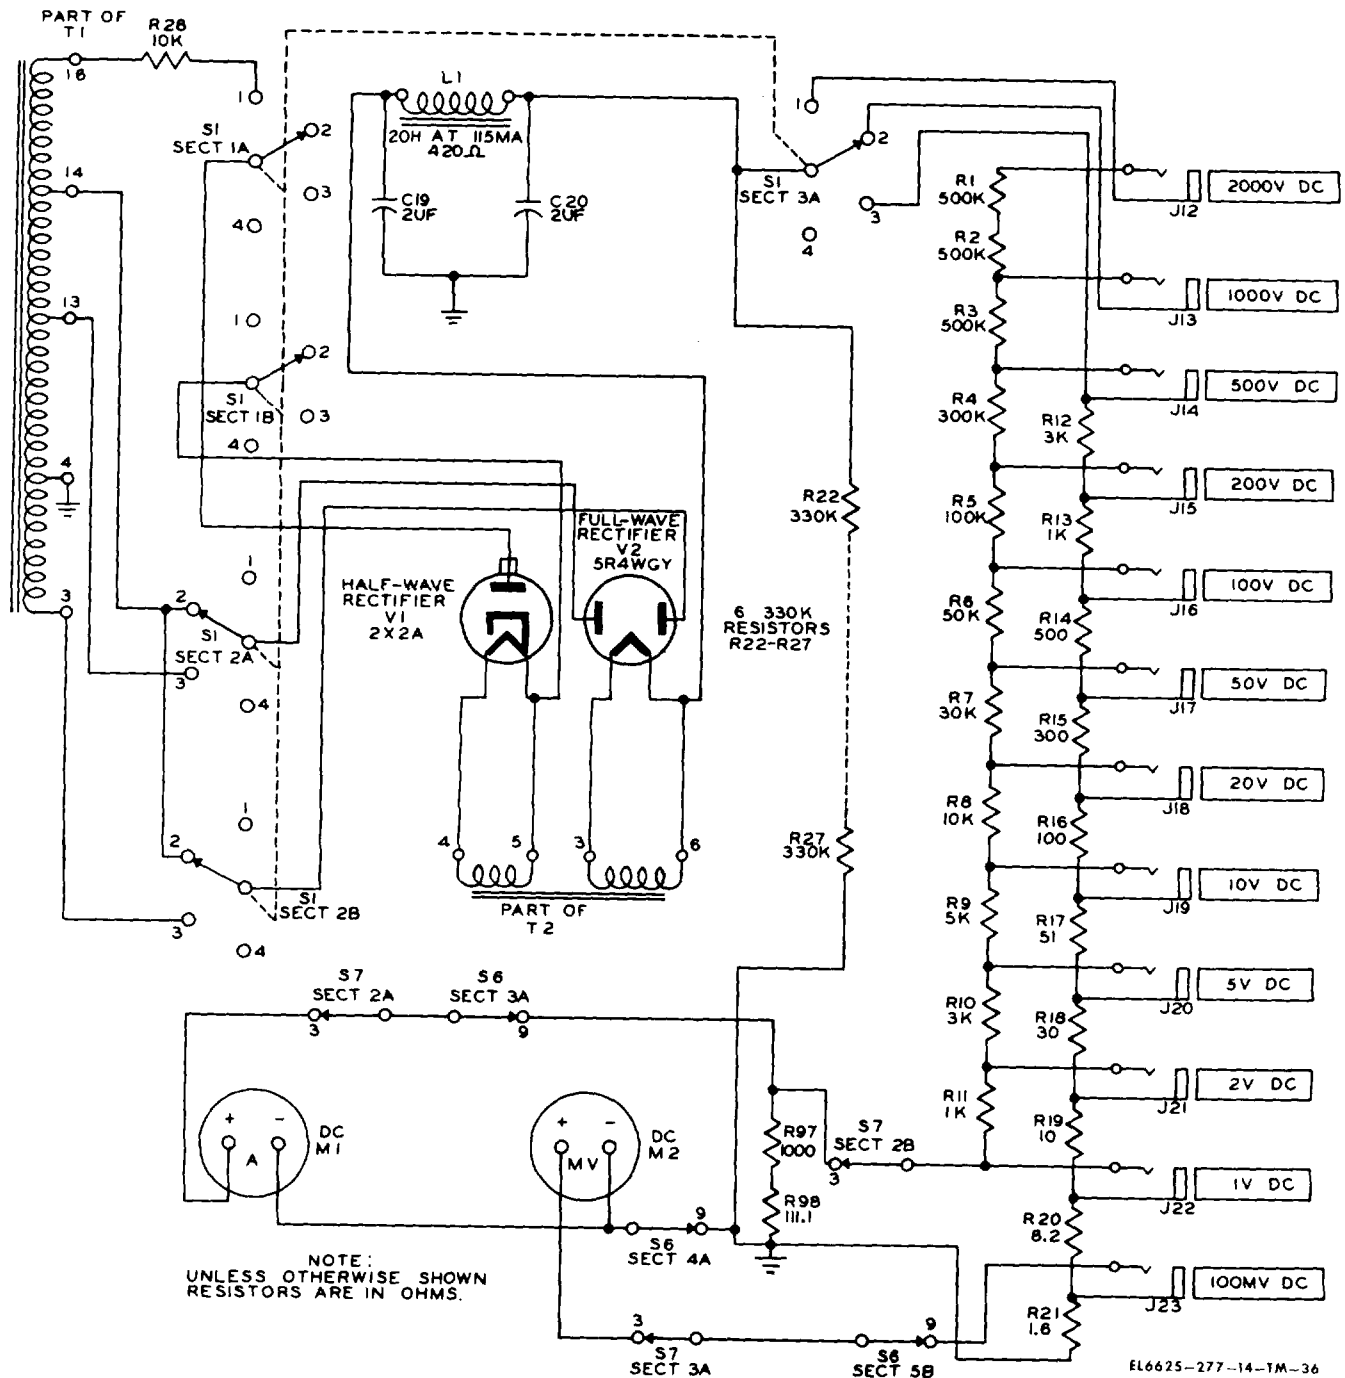

Figure 5-23. Dc voltage test circuit, simplified schematic diagram.
a. 100 Millivolts to 500 Volts (fig. 5-23). The 5R4WGY rectifier tube V2 obtains its ac potential from transformer T1 and supplies full-wave rectified voltage for the range of 100 mV to 500 volts. The standard meter for the 100-mv range of meter M2, a dc millivoltmeter. All other dc voltage ranges up to and including 2,000 volts are read on meter M1. Meter M2 is selected automatically for the 100-mV range when the test cord plug is inserted into the 100-mV jack J23. Resistors R12 through R21 function as voltage dividers for the various ranges.
Power is delivered to the ac voltage test circuit by the primary voltage control circuit which consists of powerstat T3, auto-transformer T4, rheostat R91, and transformer T1. The .1 percent resistors R4 through R11 used in the dc voltage test circuit (fig. 5-23) are used as meter-multipliers in the ac voltage ranges. The amplifier and meter combination has a sensitivity of 1,000 ohms per volt and is used the same way as an ordinary 1,000-ohm-per-volt meter movement.